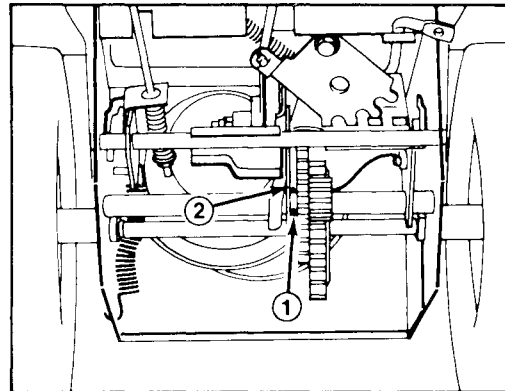

Figure 31
3. Shift speed selector to third gear and push down on speed selector plate to move drive assembly to the right. Drive assembly should contact roll pin; if not, push to the right to make a contact (Fig. 31).